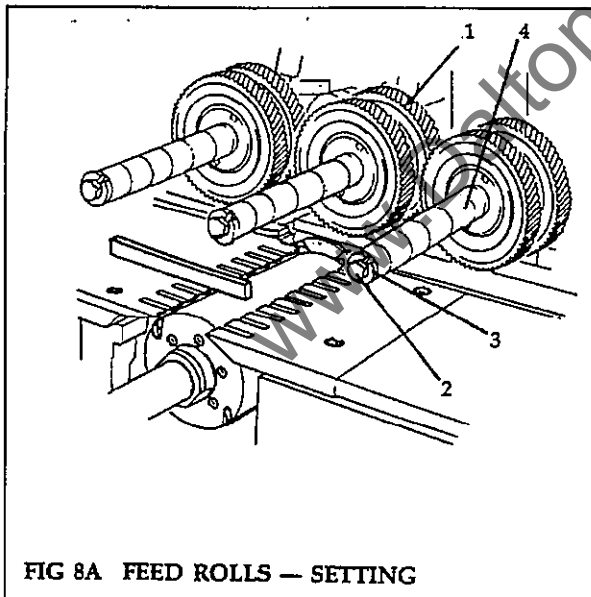
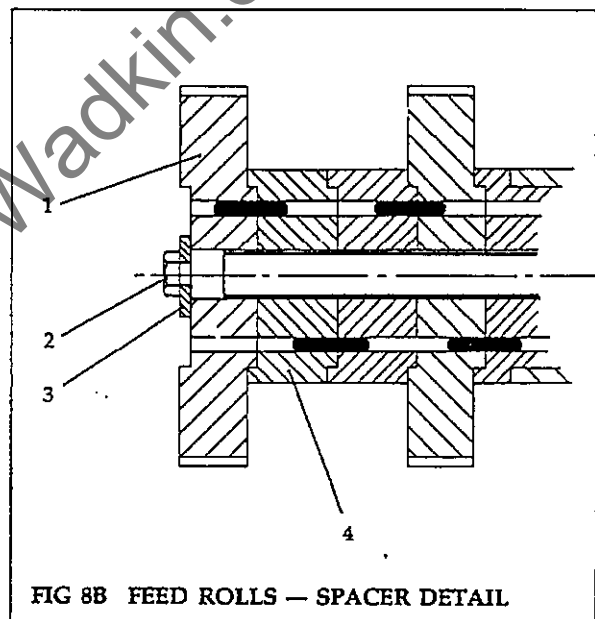

FIG 8A FEED ROLLS - SETTING
FIG 8B FEED ROLLS - SPACER DETAIL
Set feed Rolls (fig 8A, fig 8B)
NOTE To achieve maximum traction on wide timber, it may be advisable to space rolls apart (fig 8B), rather than having a solid bank of feed rolls.
- a. Slacken centre screw (2), using a 10mm hexagon spanner.
- b. Remove 'c' washer (3), add or remove rolls, or spacers (4), to suit width of stock. Fig 8B, ensure that each roll drive pin engages with its mating part (feed roll after top head only)
- c. Refit 'c' washer (3) and retighten centre screw (2).
- (2) Set feed roll height 3mm lower than thinnest workpiece. Set outfeed rolls 1mm lower.